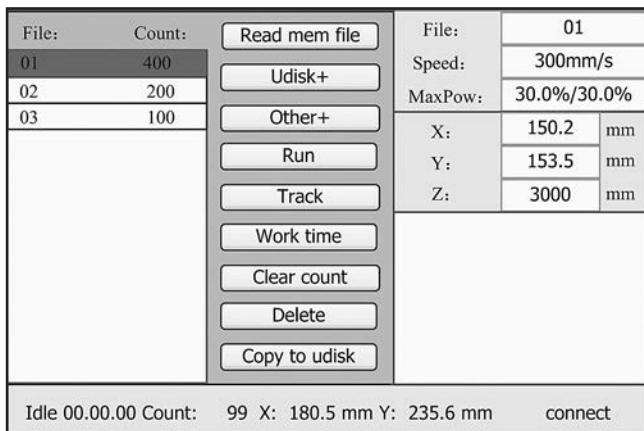

Figure 47. Example of file management screen.
6. Press File button on control panel to display file management screen (see **Figure 47**).
7. Use arrow nav buttons to highlight "Track" and press Enter (see **Figure 47**).
3. Press File button on control panel to display file management screen (see **Figure 47**).
4. Use arrow nav buttons to highlight "Work time" and press Enter (see **Figure 47**).